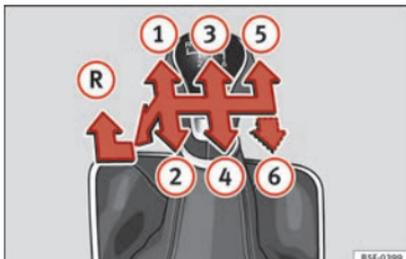

Fig. 52 Gear shift pattern of a 5 or 6-speed manual gearbox.
The position of the gears is indicated on the gearbox lever »» **Fig. 52**.
- With the gearbox lever in neutral, push it downwards, move it to the left as far as it will go and then forwards to select reverse »» **Fig. 52 (R)**.